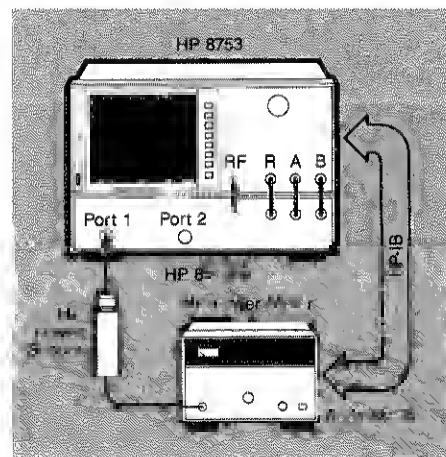

Figure 14. Setup for power meter calibration at amplifier input.
- 5B. (Optional for the HP 8753B only) For increased accuracy, also perform a power meter calibration at port 1 to remove source and test set non-linearities with frequency. Attach the HP 438A power meter to port 1 of the test set. Also, connect HP-IB as shown in Figure 14. Make sure the power meter model and address is known by the HP 8753. Before proceeding, zero the power meter.
1. Connect the instrument as shown in Figure 14 and preset the instrument. Channel 1 will display the amplifier's response to a power ramp. Channel 2 will display amplifier output power to allow easy determination of the 1 dB gain compression output power.